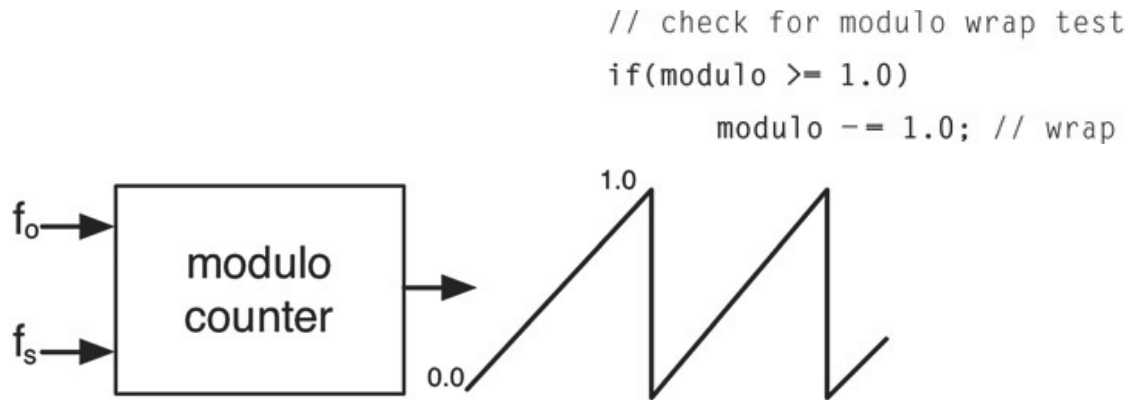

Figure 5.1: The modulo counter produces a ramp or sawtooth waveform.
*Note: some categorize ramp and sawtooth as being two different waveforms where the ramp waveform has a perfectly linear ramp edge as shown in Figure 5.1 while the sawtooth edge is curved outward as in Figure 5.19 \(a\) and (d). In this book, sawtooth refers to the same waveform as ramp, both having a linear edge.
The trivial oscillators are simple to design and calculate. We will use them again inside of pitched oscillators by modifying their discontinuities, so it is important to examine the modulo counter concept. Every oscillator in the chapter will use the modulo counter as its inner clock. A modulo counter is a counter that starts at zero, counts upward to a specified value, then rolls over and back to zero where it begins counting up again. Our modulo counters are unipolar and count from zero up to 1.0. Once the counter hits or exceeds 1.0, it rolls over back to zero, plus the amount it exceeds the 1.0 value. The counter is reset to zero when the oscillator is triggered and counts upwards with a constant increment called *inc*. The *inc* value represents the current phase of the oscillator and is also commonly called the phase increment. The *inc* value determines the frequency of the oscillator. The output of the modulo counter is a ramp or sawtooth waveform. Therefore, it directly implements the trivial sawtooth oscillator. The modulo counter is shown in Figure 5.1.